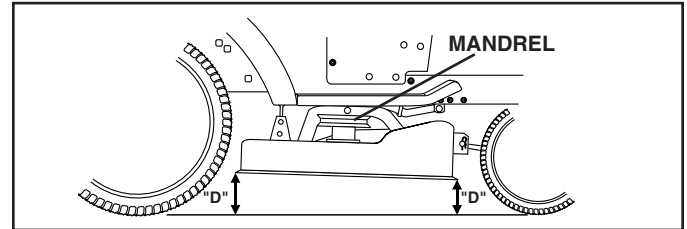

FIG. 18
**FRONT-TO-BACK ADJUSTMENT** (See Figs. 18 and 19)